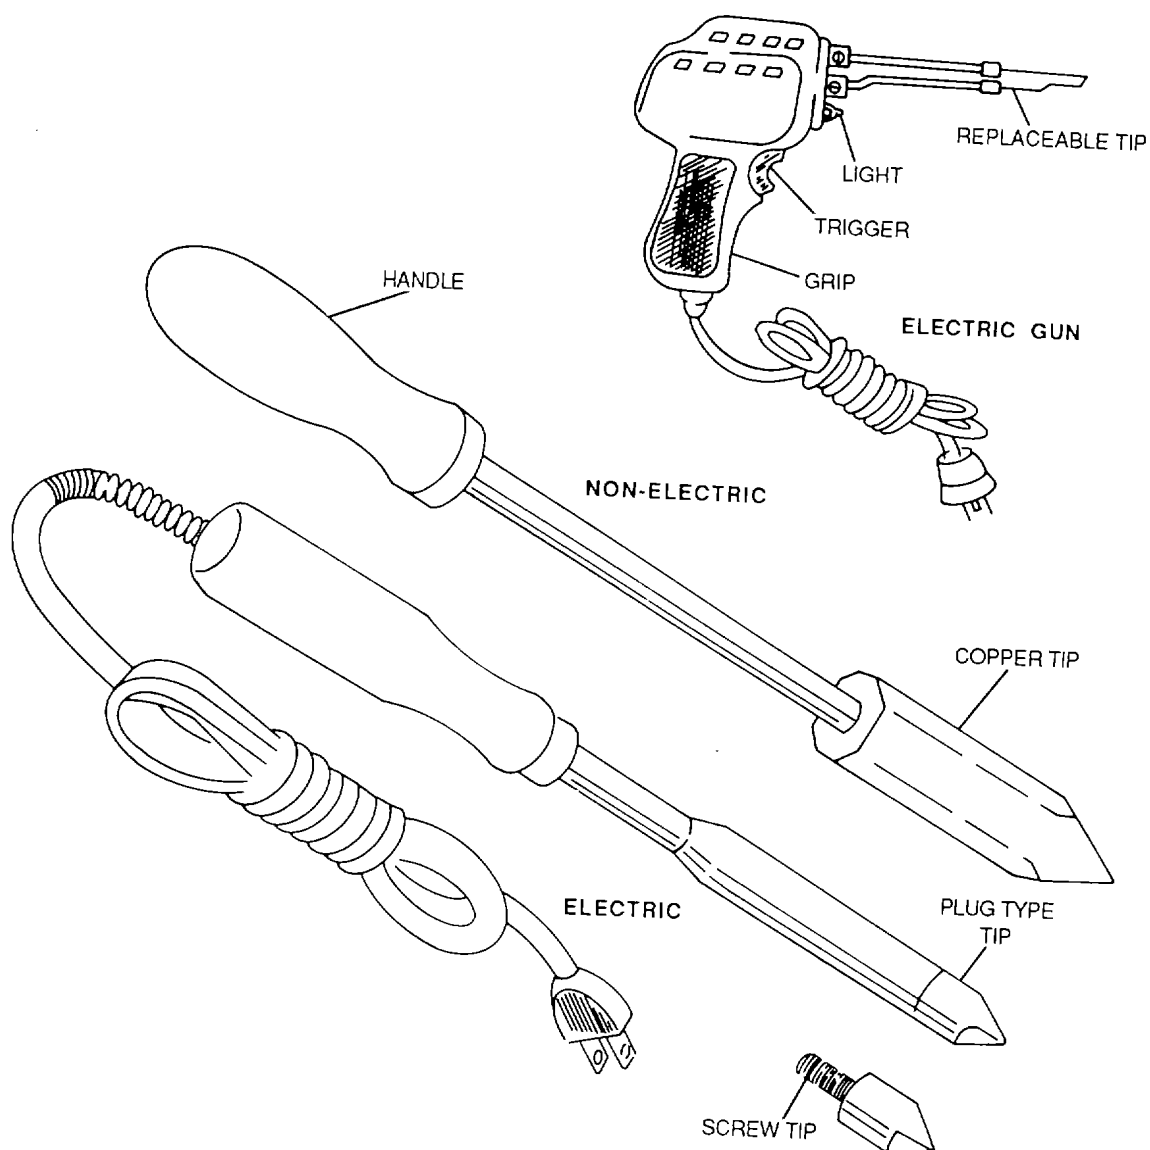

Figure 7-22. Soldering Tools
- (2) Apply a coat of light oil to wrenches to prevent rust.
**7-16. Soldering Tools.** Soldering is a metal-joining process in which a lower melting-point metal (called solder) is heated to the point where it melts and wets the joint surface and then is allowed to solidify in place. These types are shown in figure 7-22.
- (1) *Electrical soldering guns.* The electrical soldering guns operate from a standard 115 volt outlet. The guns operate in a temperature range of 500 to 600°F (260 to 316°C).